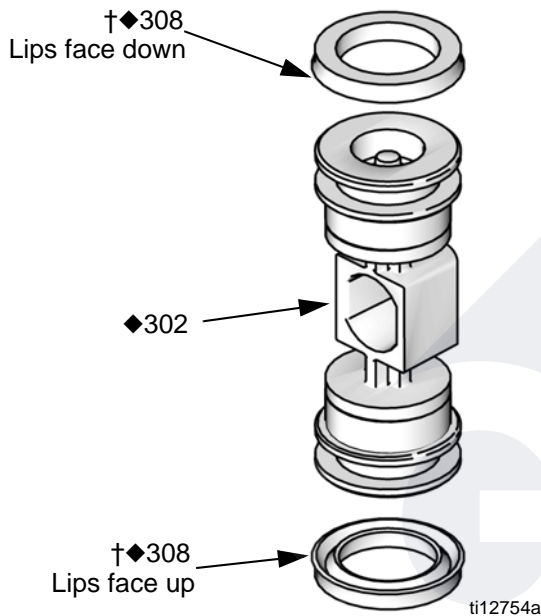

FIG. 13
2. See FIG. 13. Lubricate the u-cups (308†♦) and install on the piston (302♦) with lips facing toward the center of the piston.